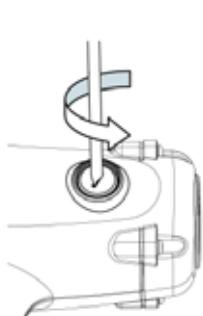

Fig. 3
- Loose the carbon brush panel counterclockwise by using slotted bit. (Fig. 3).